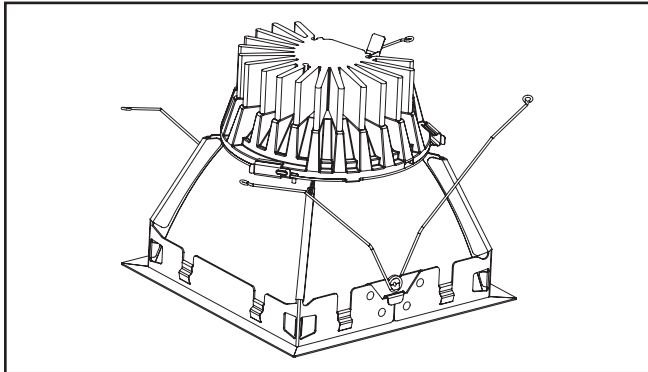

Figure 8
8. Ensure the connector is properly engaged. (Figure 8.).